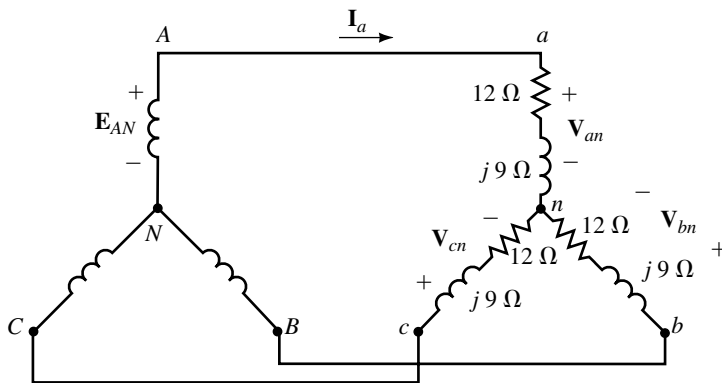

FIGURE 23–46
- For the load of Figure 23–46, $\mathbf{V}_{an} = 347\text{ V}\angle 15^\circ$. Determine all line currents. Sketch their phasor diagram.
- For the load of Figure 23–46, if $\mathbf{I}_a = 7.8\text{ A}\angle -10^\circ$, determine the phase voltages and line voltages. Sketch their phasor diagram.